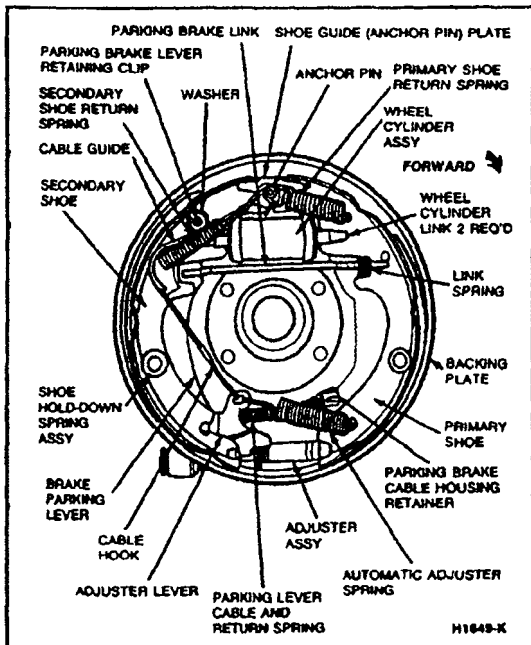

FIG. 2 Brake Drum Assembly—Typical
Another factor that contributes to the braking force supplied by the brake drum is the servo-action which results when one brake shoe pushes against the other. The brake force of the primary brake shoe is amplified by the force or pressure transmitted from the primary shoe to the secondary shoe through an adjuster screw, which acts as a connecting link between the two shoes (Fig. 2). Forward and reverse servo-action is also provided when the parking brake is applied. The parking brake is mechanically actuated by a cable system that pulls on the parking brake lever, causing the lever to pivot against the parking brake link located between the shoes (Fig. 2). This action expands the brake shoes, pressing them toward the brake drum.
3. Remove the shoe guide (anchor pin) plate (Fig. 2).
6. After removing the rear brake secondary shoe, disassemble the parking brake lever from the shoe by removing the retaining clip and spring washer (Fig. 2).
3. Position the brake shoes on the backing plate. The primary shoe with the short lining faces toward the front of the vehicle. The secondary shoe (long lining) faces rearward. Secure the assembly with the hold-down springs. Install the parking brake link, spring and retainer. Back-off the parking brake adjustment; then, connect the parking brake cable to the parking brake lever (Fig. 2).
7. Install the cable guide on the secondary shoe web with the flanged hole fitted into the hole in the secondary shoe web. Thread the cable around the cable guide groove (Fig. 2). It is imperative that the cable be positioned in this groove and not between the guide and the shoe web.
10. Apply a thin, uniform coat of Multi-Purpose Long-Life Lubricant C1AZ-19590-B or equivalent to the threads and the socket end of the adjusting screw. Turn the adjusting screw into the adjusting pivot nut (Fig. 2) to the limit of the threads, and then back-off one-half turn.
14. Pull the adjuster lever, cable and automatic adjuster spring down and toward the rear, engaging the pivot hook in the large hole of the secondary shoe web (Fig. 2).